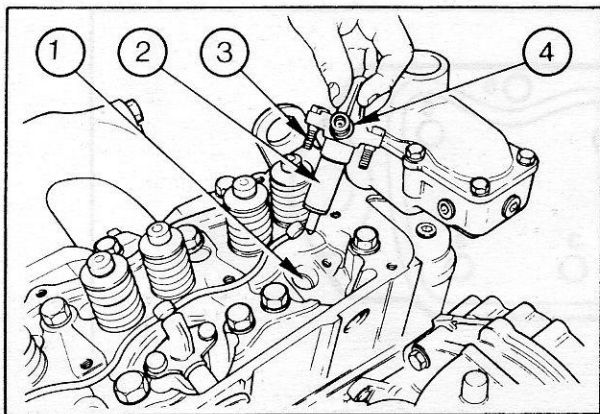

Fig. 50 - Replacing Injectors
73. Ensure that the cylinder head injector seats are thoroughly clean, then install new sealing washers (Fig. 50).